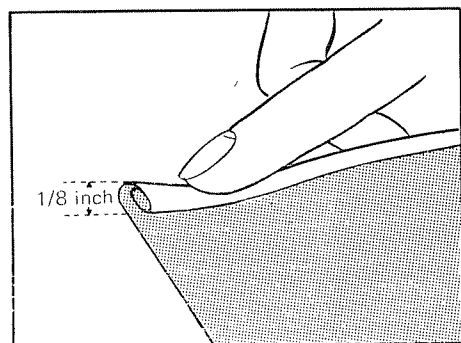

Fig. 1
3. Crease a double 2.5 mm (1/8") fold for about 2 inches along the edge of material to be hemmed. (Fig. 1)